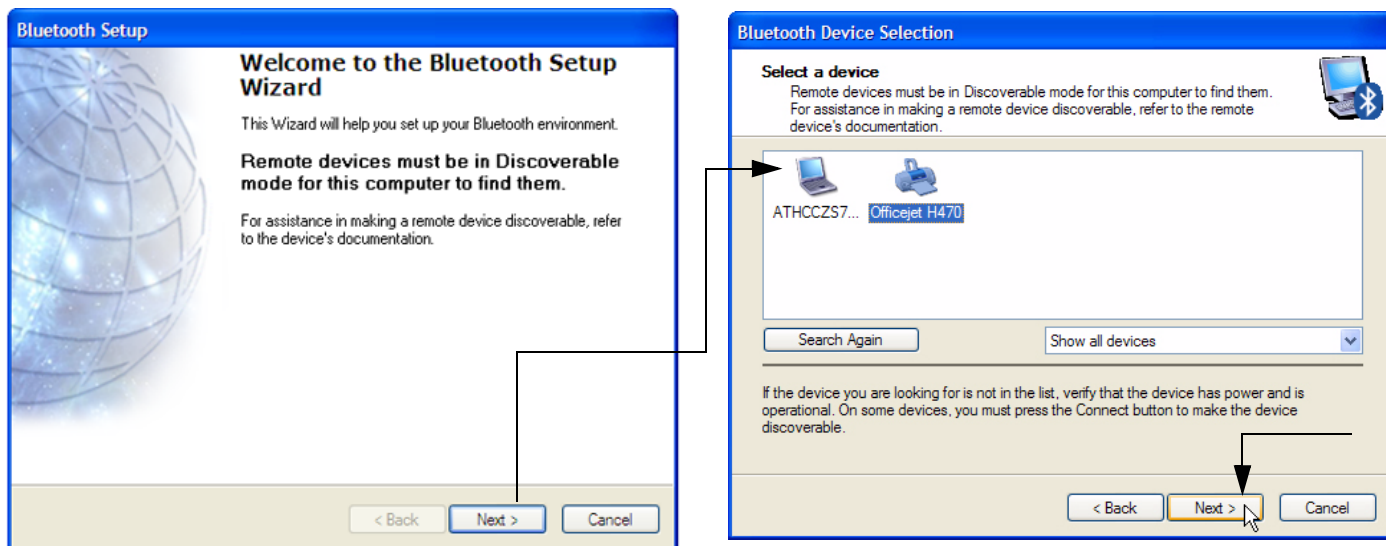

Figure 3-33 Bluetooth Setup
9.) In the "Bluetooth Setup" window (see: Figure 3-33 below) click on NEXT.